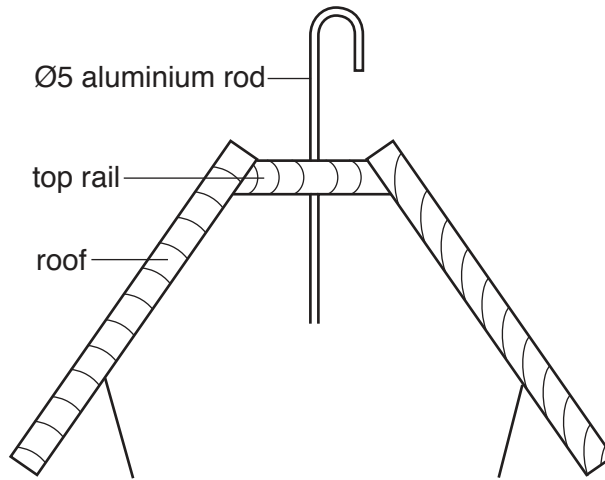

Fig. 10
- (e) Fig. 10 shows a sectional view of part of the bird feeder with a Ø5 aluminium rod that will hook over the branch of a tree.
Add sketches to Fig. 10 to show how the Ø5 aluminium rod could be attached to the top rail of the bird feeder. [3]